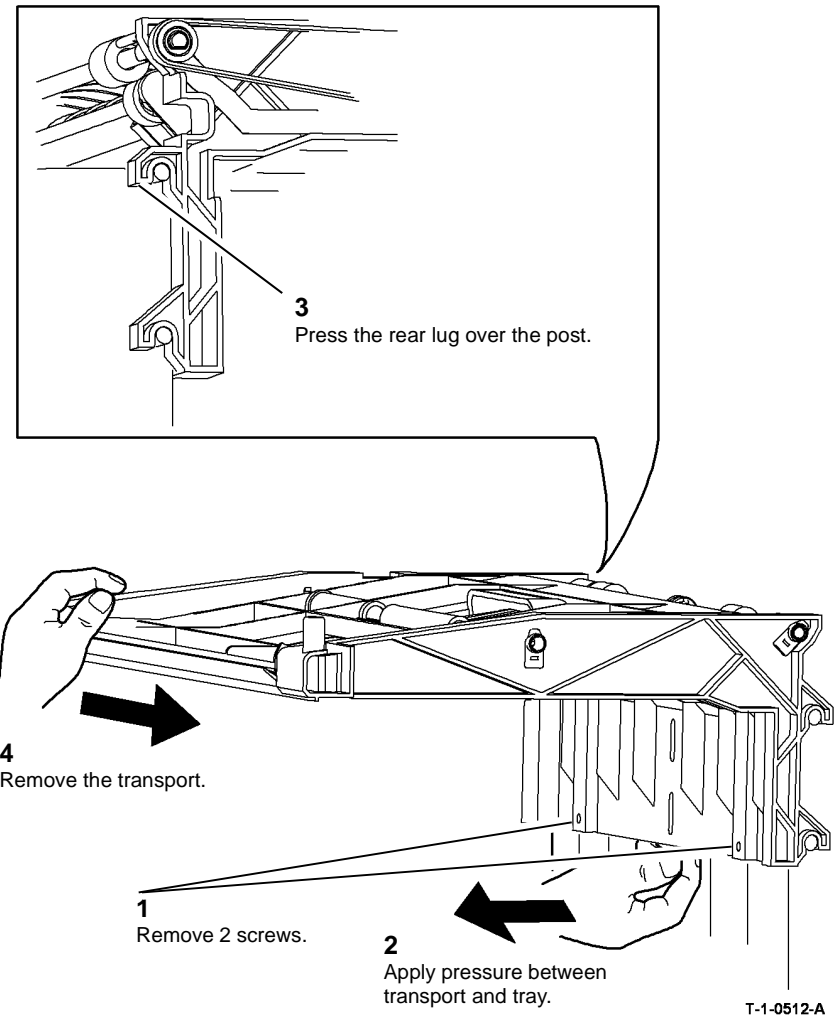

Figure 2 Transport assembly removal
2. Remove tray 3 transport assembly, Figure 2.